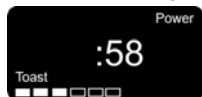

Fig. 13
6. The timer will only count down the last 58 seconds. (Fig. 13)